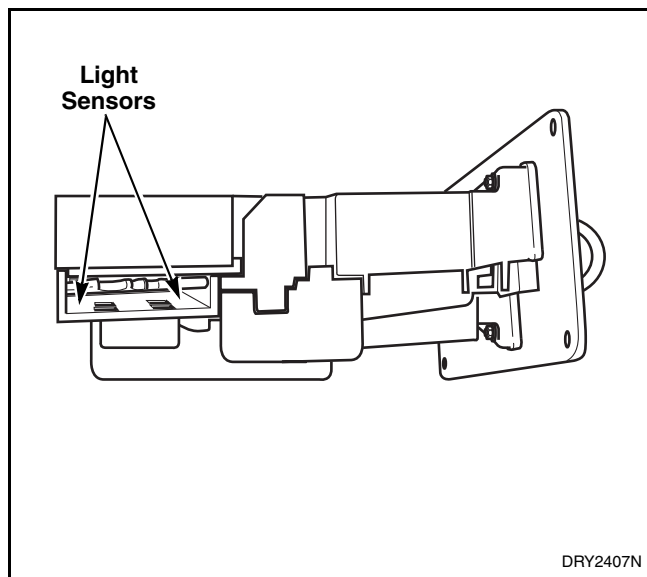

Figure 24
- f. Clean light sensors with a soft brush or air spray duster. Refer to *Figure 24*.